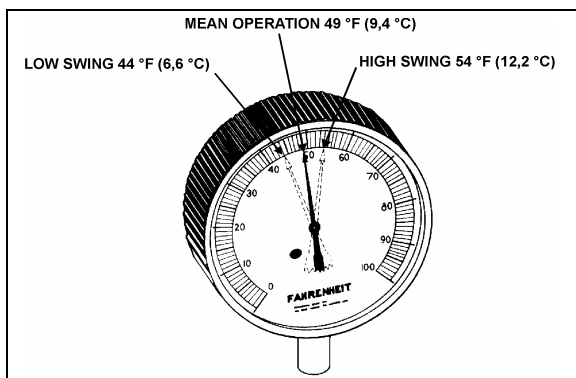

FIGURE 37: HIGH & LOW SWING TEMPERATURE AT REMOTE BULB²²⁰⁴⁷
6. Check approximately 5 readings of pressure at 2-minute intervals and convert to temperature using the temperatures & pressures table (page 36). Likewise check the temperature reading at the remote bulb at the same 2-minute intervals and record the low and high swing readings of the needle (refer to Fig. 37).
Example of readings taken at fig. 37: